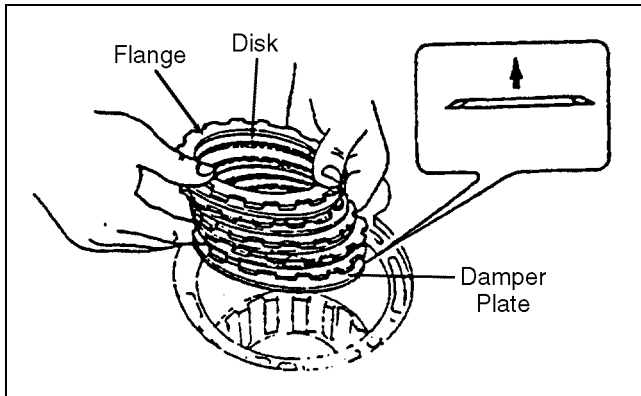

Figure 4J-27. Installation ó Step 4
- Turn the rear planetary gear clockwise and then push in the one-way clutch until it fits in the groove as shown in Figure 4J-28.